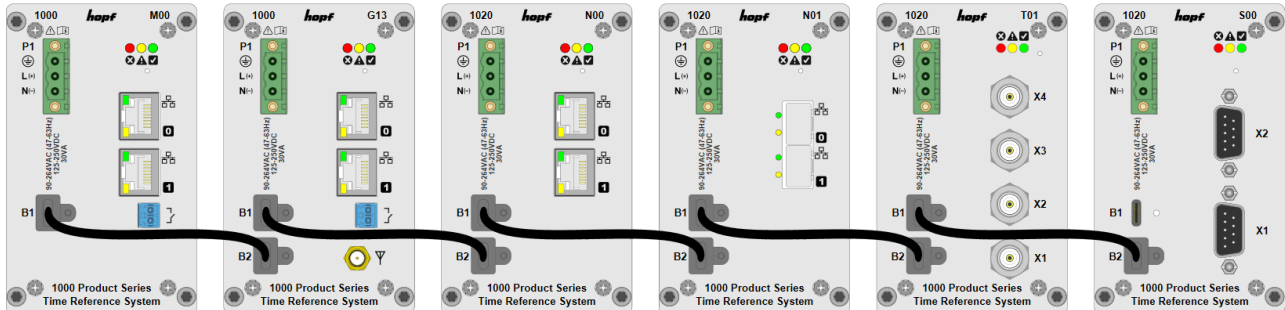

Figure 7
- 4. Interconnect the modules:** Connect the modules using the interconnection cables to build the system assembly (see Figure 7).